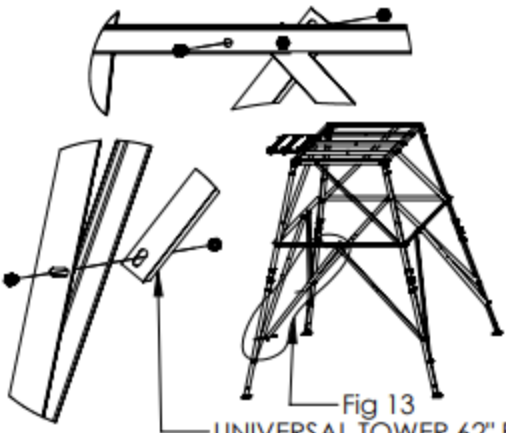

Fig 13
19. Attach the 62" brace to the horizontal cross bar and the lower leg on the narrow side using 2 - 3/8" x 1" bolts & 2 - 3/8" nylon lock nuts. Repeat on the opposite side. (Fig 13)